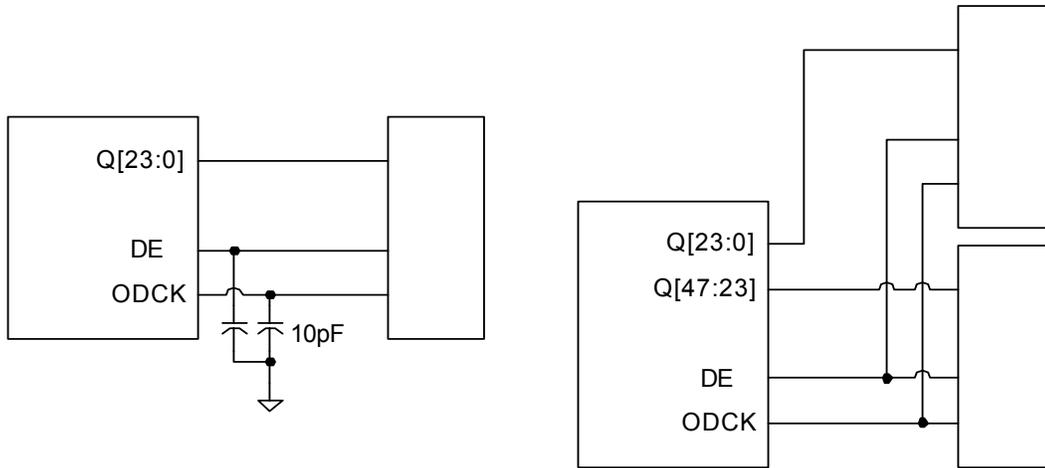

Figure 3. Output Loading in SiI 151B Mode
2. ODCK and DE output pins should be loaded with 10pF when ST=0 and 20pF when ST=1. If layout requires only a point-to-point, one load net, a discrete 10pF capacitor should be added to the net to create these loads. See Figure 3.